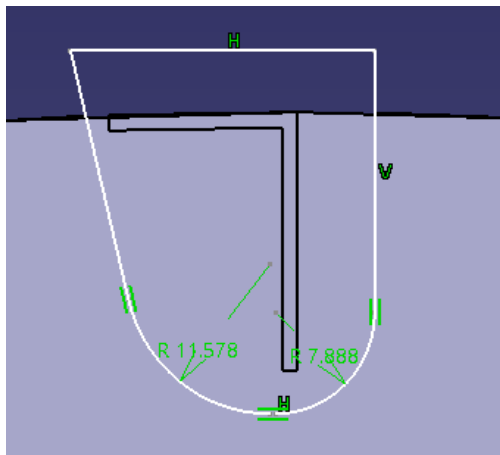

Fig. 11 Sketch for pocket
- Now make sketch as shown in fig.11 and using pocket command create pocket(upto last).